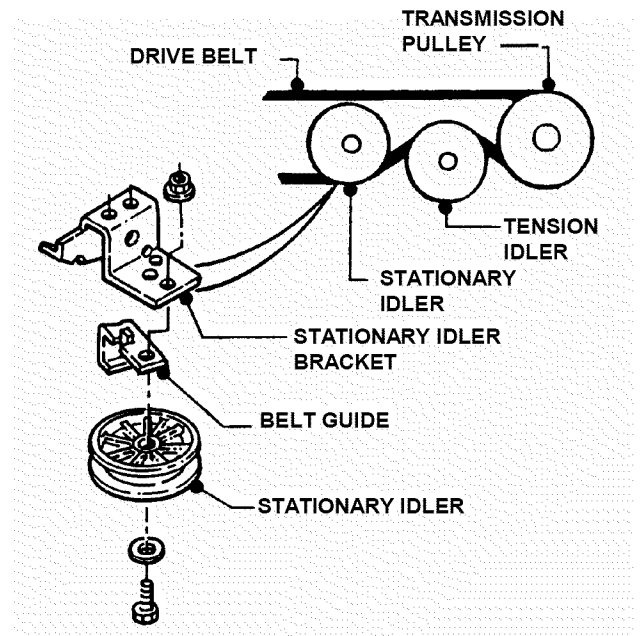

FIGURE 4.32
3. Route belt through stationary and tension idlers. See Figure 4.32.